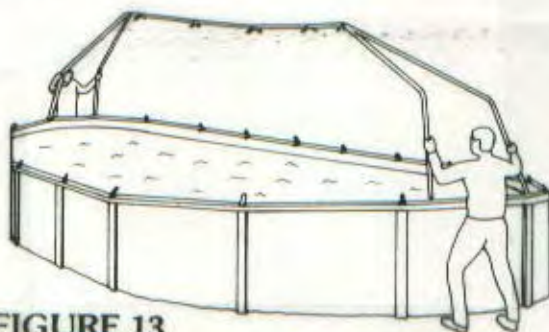

FIGURE 13
- C. With one person holding each rafter end and pushing towards the spider, carefully lift and walk the Ridge Beam assembly over the pool at the longest measurement. Place the rafters in the mounting brackets. See Figure 13.